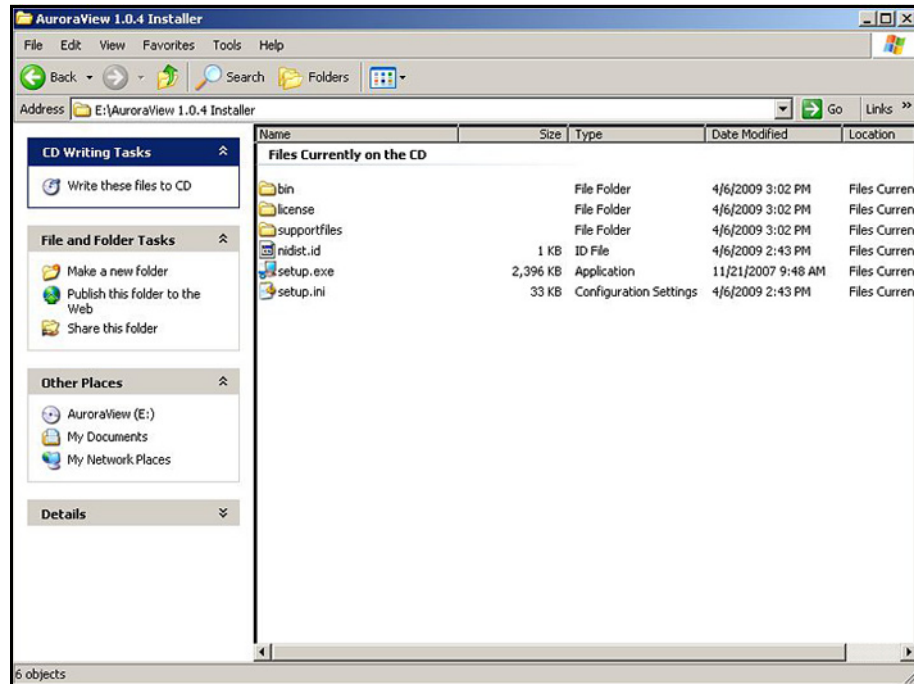

Figure 21: AuroraView Installer
- Browse to the file named “*setup.exe*” in the root directory of AuroraView (see *Figure 21* below). Double-click the file to start the installation.